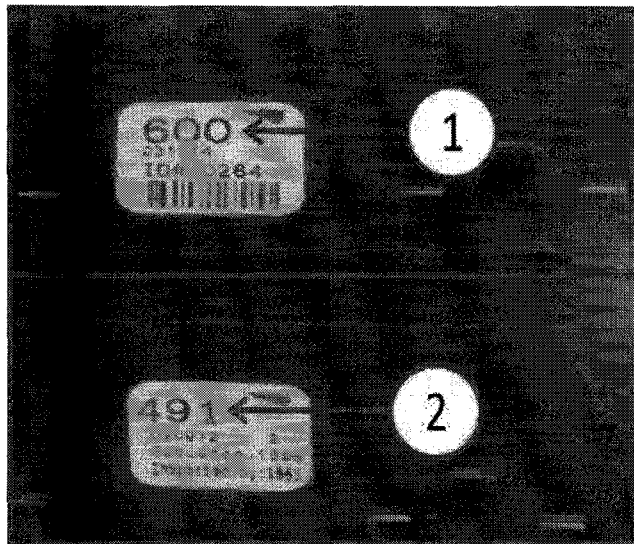

Fig. 1 PDC Identification Numbers
2. ****Check the PDC identification number. Late built PDCs do **Not** have this issue, see (Fig. 1).****